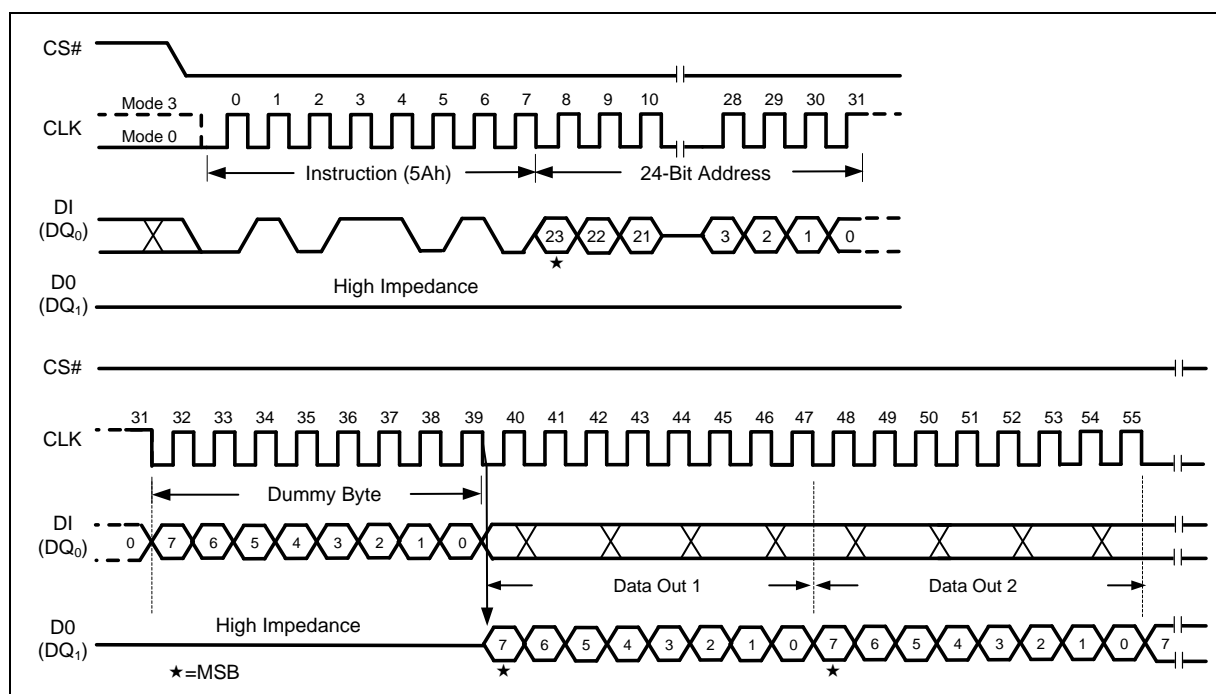

Figure 52 Read SFDP Register Instruction
The Read SFDP instruction is initiated by driving the /CS pin low and shifting the instruction code “5Ah” followed by a 24-bit address (A23-A0)(1) into the DI pin. Eight “dummy” clocks are also required before the SFDP register contents are shifted out on the falling edge of the 40th CLK with most significant bit (MSB) first as shown in Figure 52.